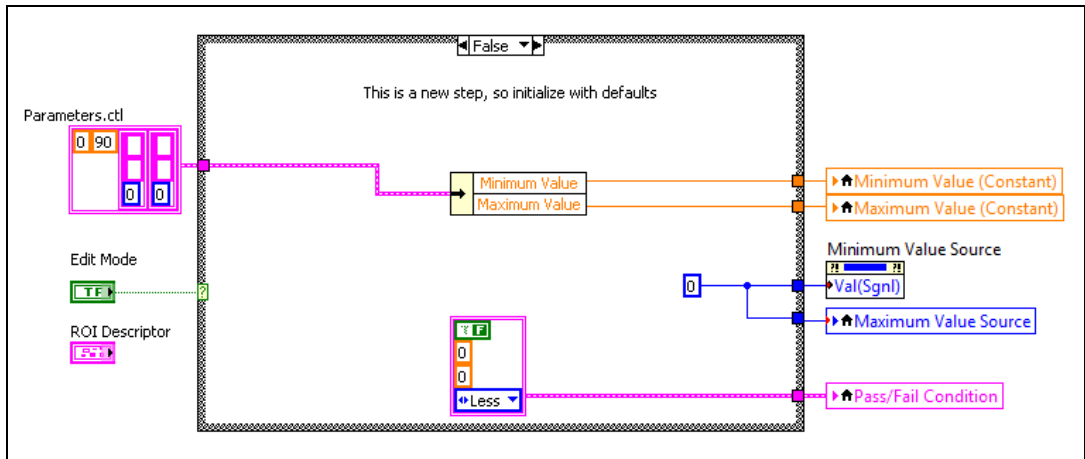

Figure 5-5. Initializing the Previous Measurement Controls with Default Values
3. Complete the following steps to build the block diagram shown in Figure 5-5: